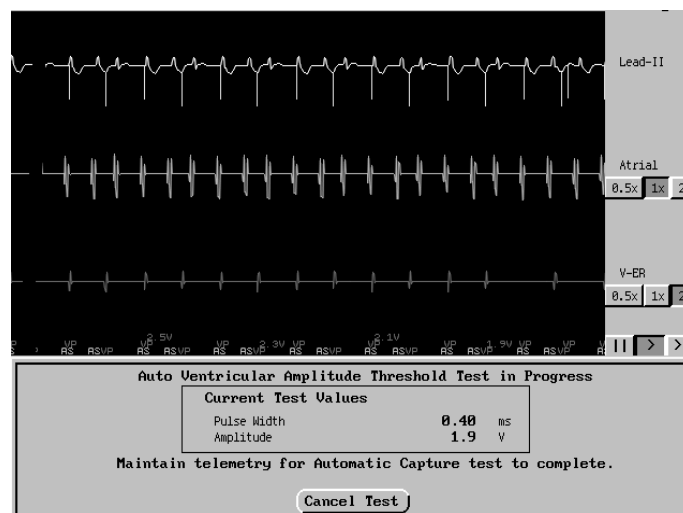

Figure 7-10. The Auto Ventricular Amplitude Threshold Test in progress.
Follow these steps to perform an Automatic Threshold Test (Figure 7-10):
- To view the Evoked Response EGM during the test, select the V-ER option from the lead selection boxes to the right of the EGM display (Figure 7-10).